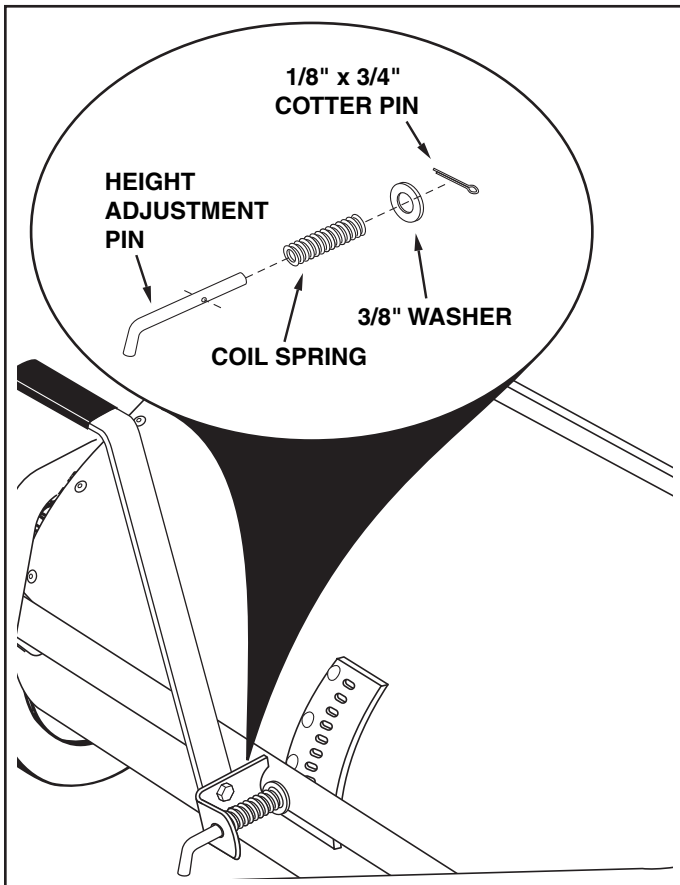

FIGURE 7
- Place the height adjustment pin into the height adjust bracket. Assemble coil spring and 3/8" washer onto the height adjustment pin and then secure them using a 1/8" x 3/4" cotter pin. See figure 7.